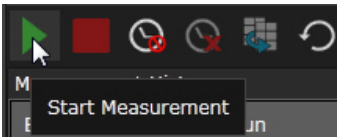

Figure 51 Start measurement
- 18 Click on the **Start Measurement** button to start the measurement as shown in **Figure 51** on page -95.